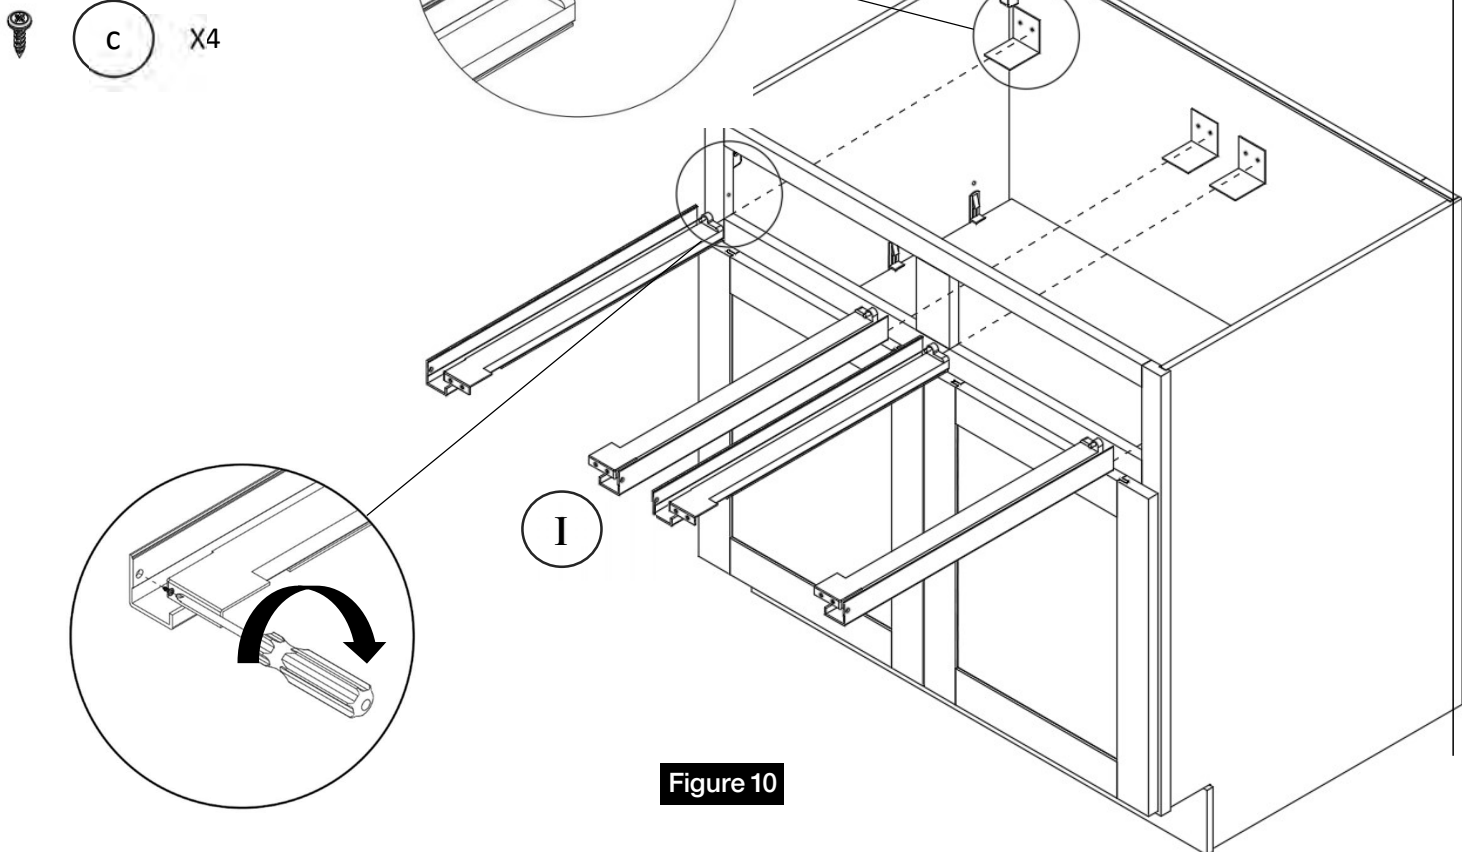

Figure 10
Attach the Drawer Glides (I) using screws (c) onto the frame and glide brackets installed in Step 2. (Figure 10)